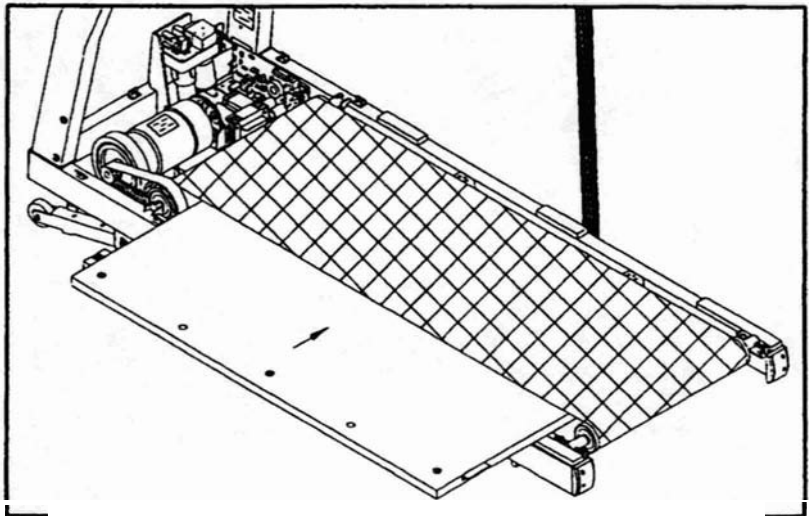

Fig.6
1. Replace new running deck.(see Fig.6)